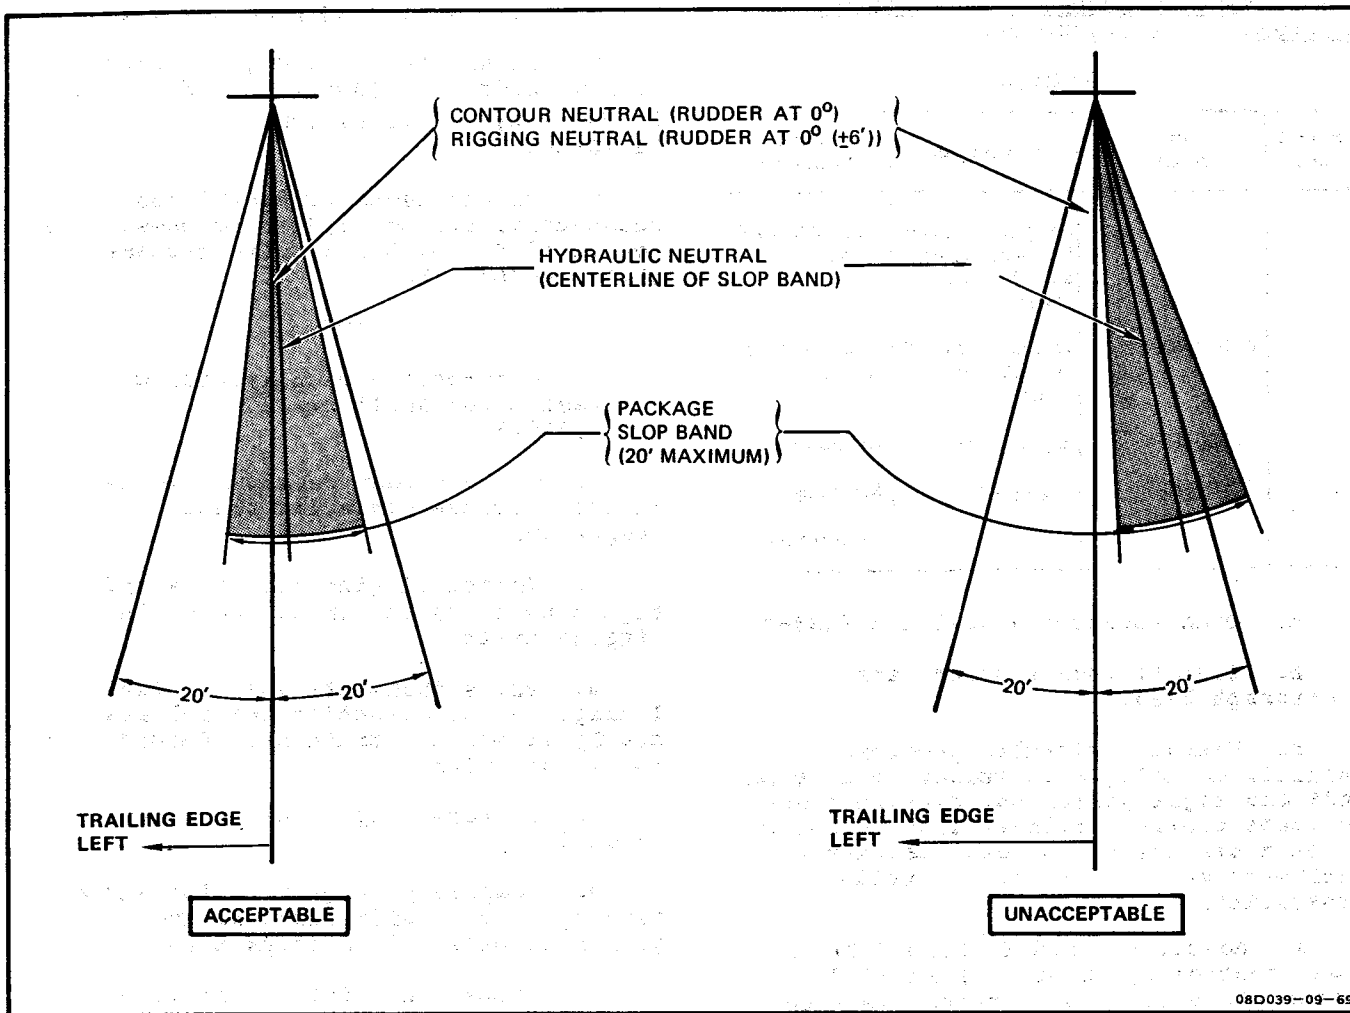

Figure 5-7. Rudder PC Package Slop Check and Package Slop Band Limits
m. Press jackshaft (31) in feedback linkage in one direction and release slowly (3 seconds minimum). Record rudder position.
p. Check that width of package friction and slop band (figure 5-7) does not exceed 0°20' and contains rigging neutral.